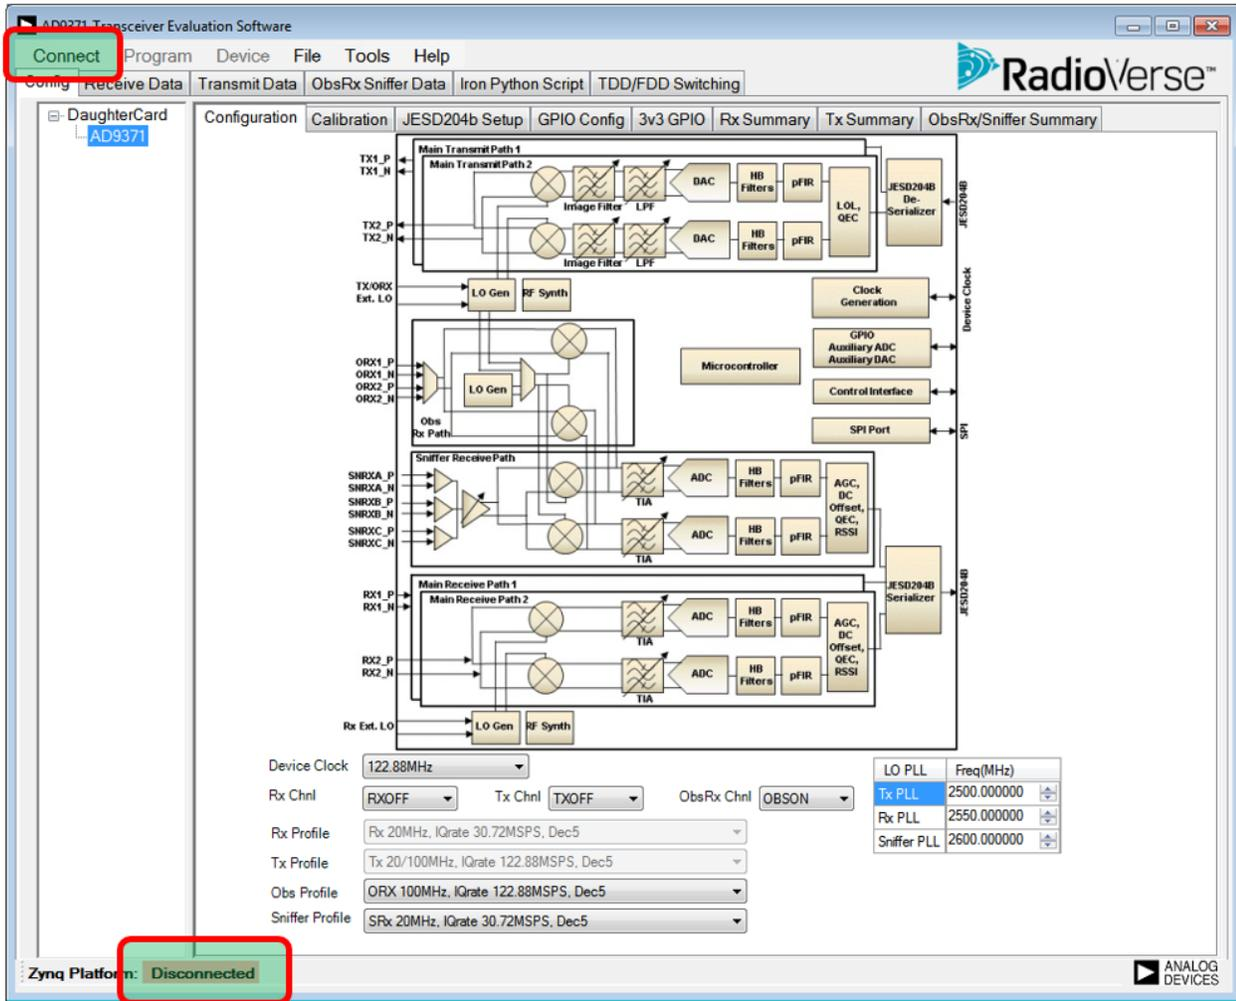

Figure 184. Transceiver Evaluation Software (TES) Project Setup Page
The device is a direct conversion transceiver. The Tx baseband dc offset and direct coupling of the local oscillator (LO) to the Tx output can cause an undesired continuous wave (CW) emission at the Tx LO frequency. The purpose of the transmitter local oscillator leakage (LOL) calibration is to minimize this emission. The evaluation system supports two types of Tx LOL calibration algorithms, internal and external. Make Tx LOL calibration algorithm selections in the calibration boxes located in the transceiver evaluation software (TES), see Figure 179 (the full screen capture of this graphical user interface (GUI) is shown in Figure 184).
1. Click **Connect** (see Figure 184) in the TES.